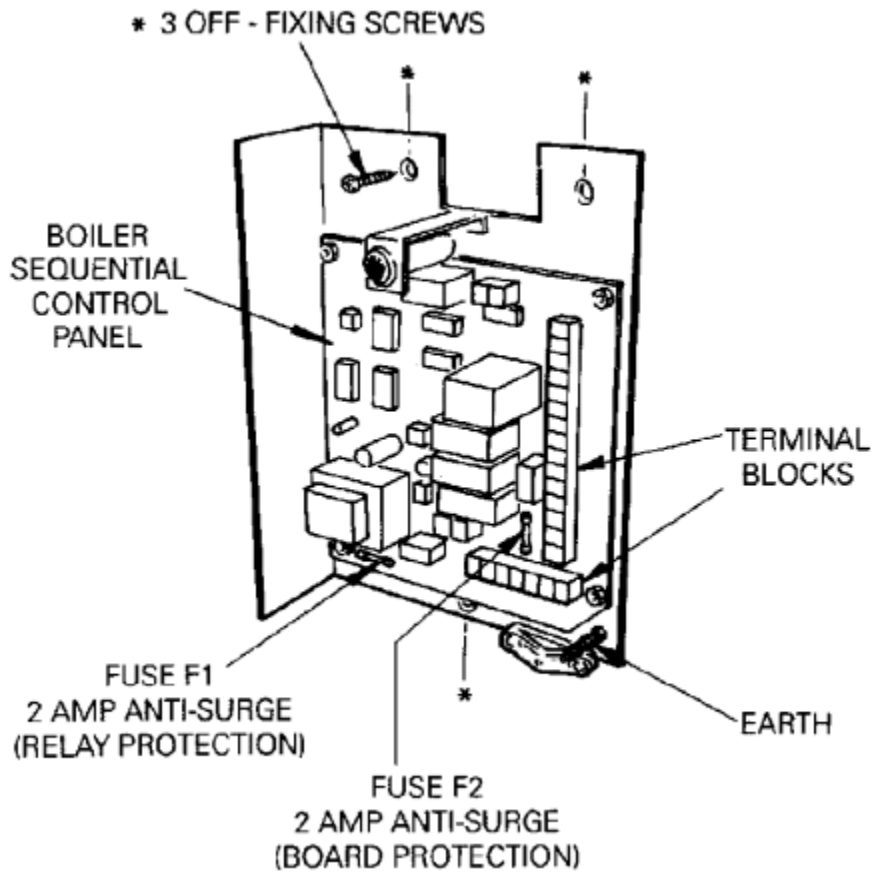

Fig.27 DESN 510389
**To Remove Sequential Control Panel - See Fig 27.**